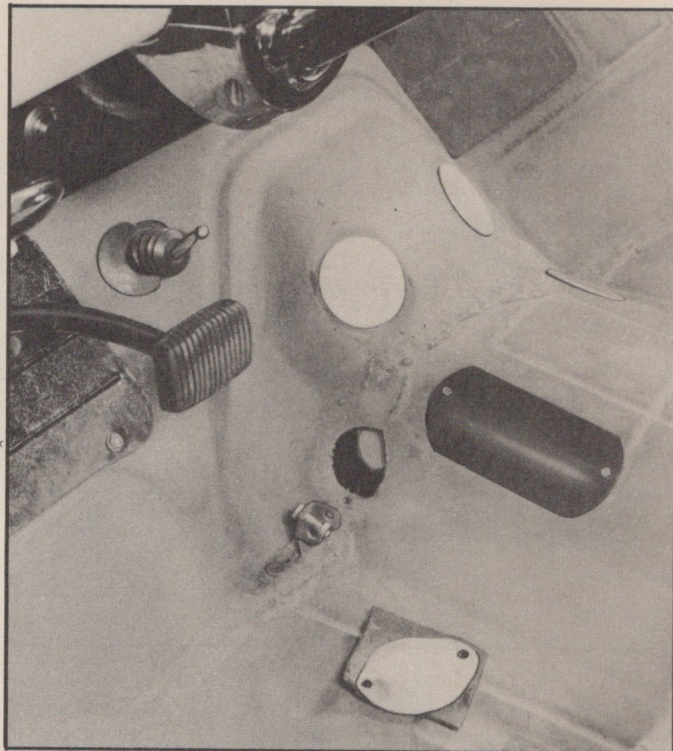

Fig. 89—Pressure Regulator Access Cover Removed
2. Remove floor hole cover over regulator (Fig. 89). Clean transmission so dirt will not enter assembly when regulator plug is removed.